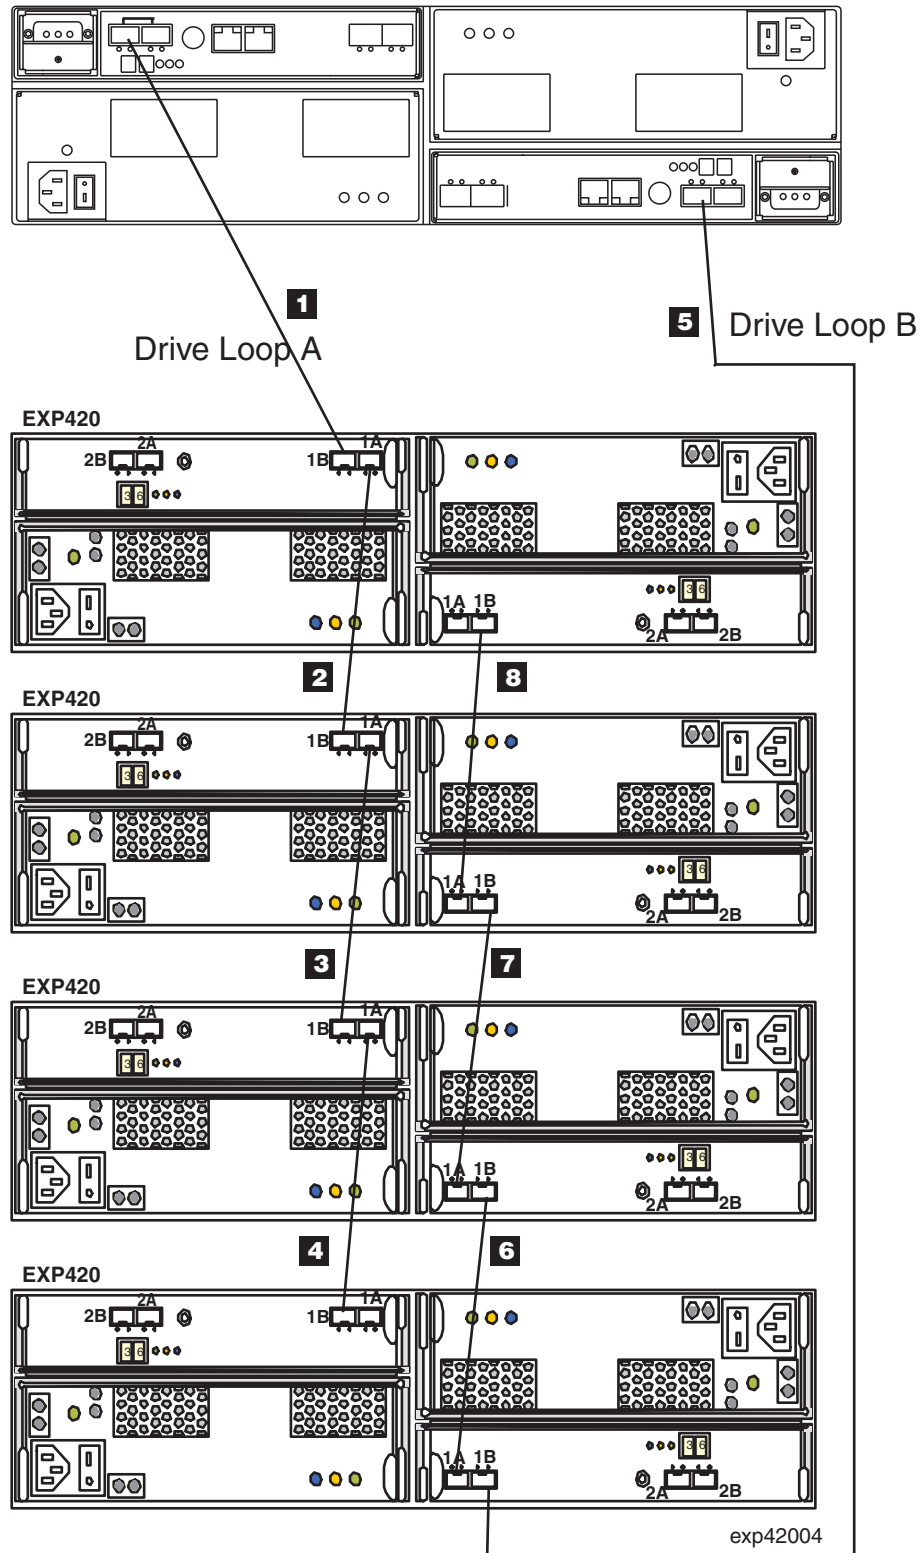

Figure 35. Correct EXP420 redundant drive loop configuration
- **The controller drive ports of the DS4000 storage subsystem controllers must always be connected to the ports labeled 1B in both right and left ESMs of the EXP420s in the redundant drive channel/loop pair that is connected to the DS4000 storage subsystem. (Figure 35 on page 49 shows the location of the ports.)**
Figure 35 on page 49 shows a redundant drive loop that you might create with a DS4200 Express Storage Subsystem and four EXP420s. The numbers provided in Figure 35 on page 49 show the order in which cables should be attached. **Note that the controller port is connected to the port labeled 1B on both the right and left ESMs.**
To create drive loop A (of the DS4200 Express redundant drive loop) shown in Figure 35, you would perform the following steps:
To create drive loop B (of the DS4200 Express redundant drive loop) shown in Figure 35 on page 49, you would perform the following steps: